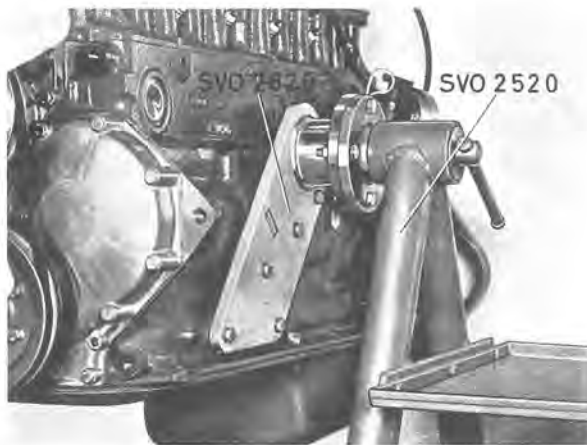

Fig. 2-19. Engine on stand
1. Place the engine on stand SVO 2520 with fixture SVO 2820. See Fig. 2-19. Check to make sure the oil has been drained off.